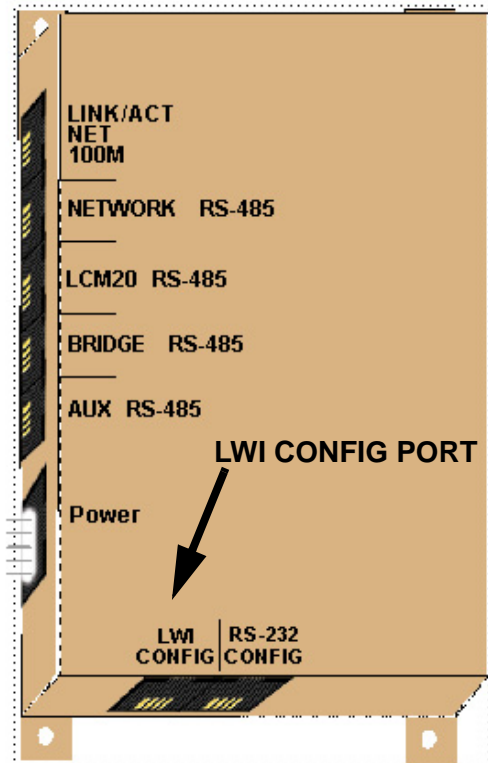

Figure 18: LWI Config Port on LC3000
- 1 Plug the RJ-45 connector from the patch cable connected to the LE3/BRIDGE wireless module into the RJ-45 jack of the LC3000, labeled "LWI CONFIG" (see Figure 18).
- 1 Plug the configuration cable, provided with the LC3000, into the RJ-45 jack labeled "LWI CONFIG" on the LC3000 (see Figure 18).